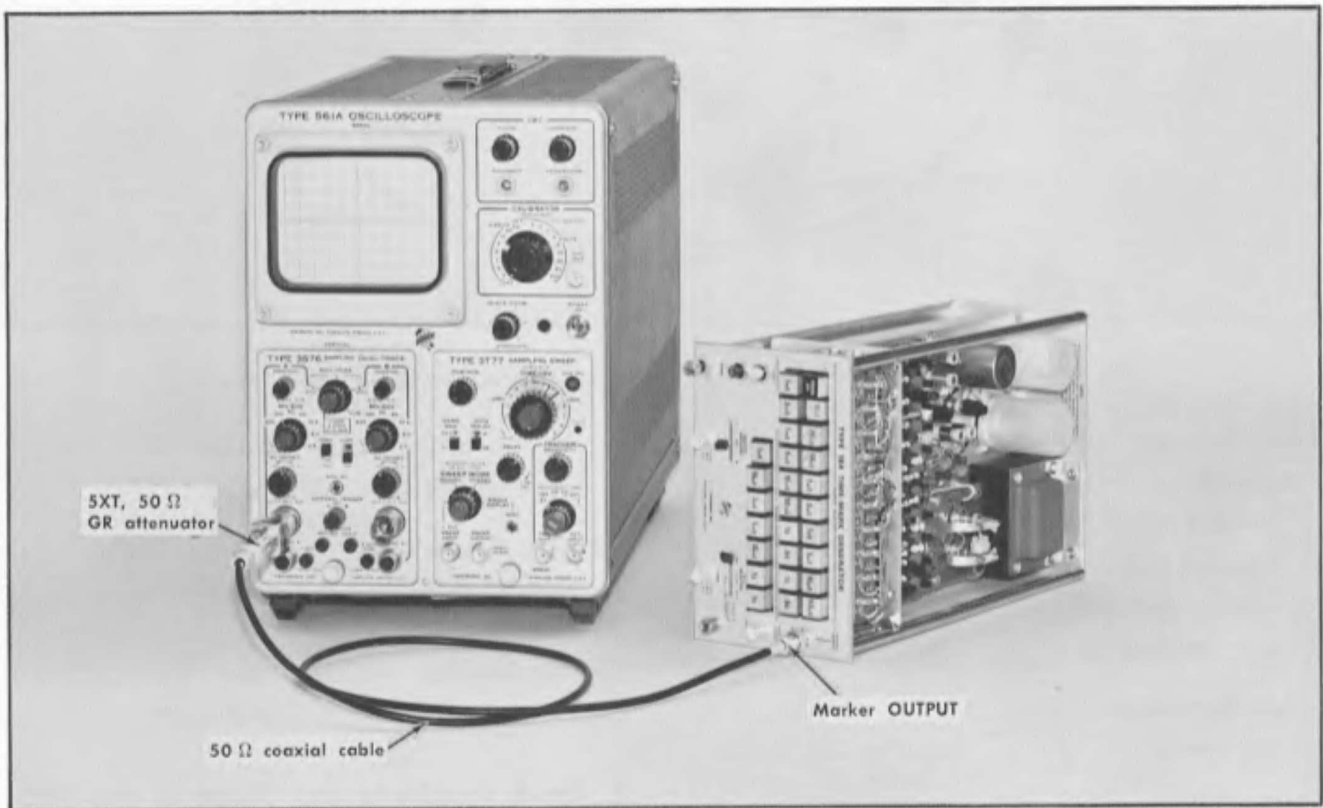

Fig. 6-17. Test equipment setup to check and adjust 10, 20 and 50 ns sine-wave markers. Step 10.
- a. Test equipment setup is shown in Fig. 6-17.